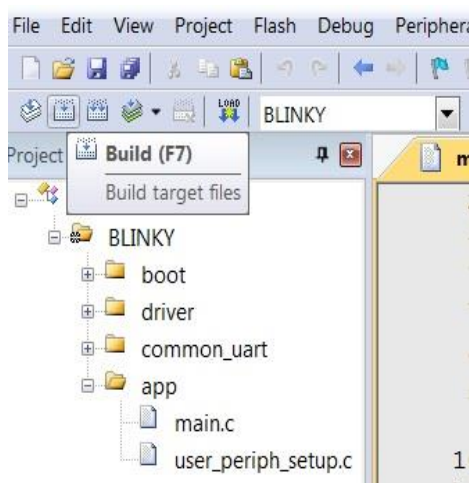

Figure 22: Blinky Project: Project Building
8. Build the project by pressing **F7** key, or clicking the **Build** button, see **Figure 22**.